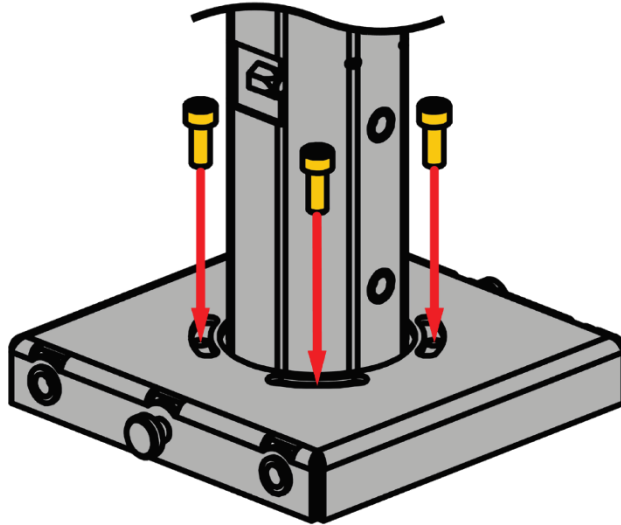

Figure 86: Step 5
Step 5: Tighten the top plate ④ to the lower tube ③ using the bolts ⑧ (4 pcs.), as shown in **Figure 86**.